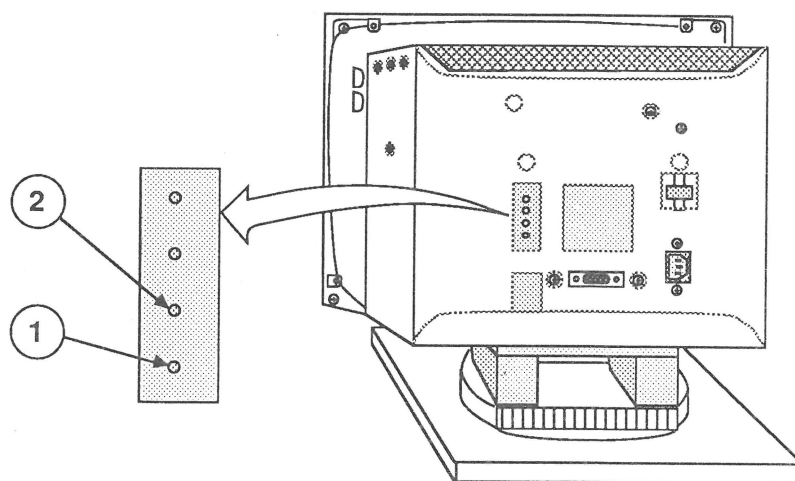

FIGURE 13
2. If the white raster is not vertically centered on the monitor screen, use a plastic alignment tool to adjust the VERTICAL SHIFT control (Figure 13, #1) until the white raster is vertically centered.
2. If the height of the white raster is not 11 5/16 inches, use a plastic alignment tool to adjust the VERTICAL SIZE control (Figure 13, #2) until the white raster is 11 5/16 inches high.